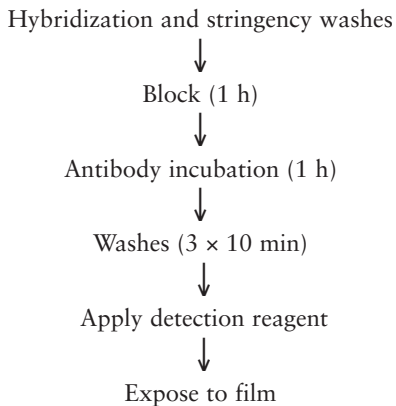

Figure 1. Outline of stages and approximate timescales in the Gene Images CDP-Star detection system
The Gene Images CDP-Star detection module is an improvement over the original Fluorescein Gene Images dioxetane module. The new substrate (CDP-Star) has a more rapid light output which minimizes the effect of the lag phase previously associated with decomposition of stabilized dioxetanes. Consequently, exposures to film made in the first few hours after addition of the substrate to a membrane will produce a much stronger signal than previously. Following hybridization, this detection module allows detection of hybrids (after a blocking step) by incubation with an anti-fluorescein alkaline phosphatase (AP) conjugate. After washing off the excess conjugate, probe-bound AP is used to catalyze light production by enzymic decomposition of a stabilized dioxetane substrate. The principle of the system is outlined in figure 1.